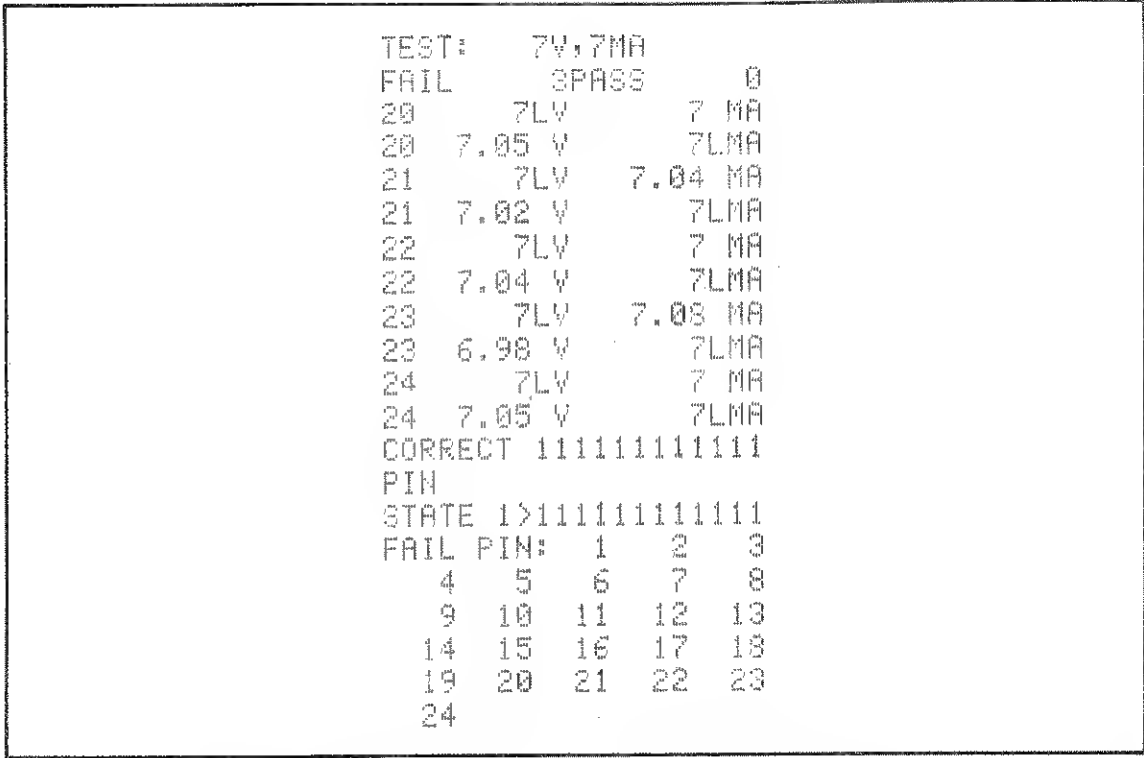

Figure 4-1. Typical printout for R-Pack Test (partial printout)
- b. A printout similar to Figure 4-1 will be produced.